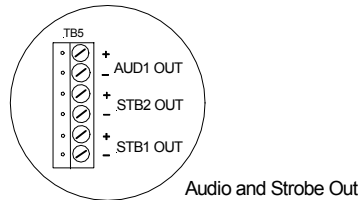
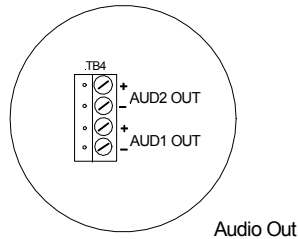

Figure 3-8
Figure 3-9
Figure 3-8 shows the audio and strobe output connections as they are on the SPB-80/4. Notice that there is two strobe outputs.
1. Connect Audio Appliance circuit to Audio Output (AUD OUT) connection(s). Figure 3-8 and Figure 3-9 are enlarged diagrams of the referred areas. The Audio Output(s) is supervised. A UL Listed 10K Ohm, EOLR is required at the end of the circuit for proper supervision.
4. Connect Strobe Appliance circuit to STB Outputs (STB1 OUT, STB2 OUT) connections. Figure 3-8 is an enlarged diagrams of the referred area. The strobe outputs are supervised. UL Listed 10K Ohm, EOLR is required at the end of the circuit for proper supervision.